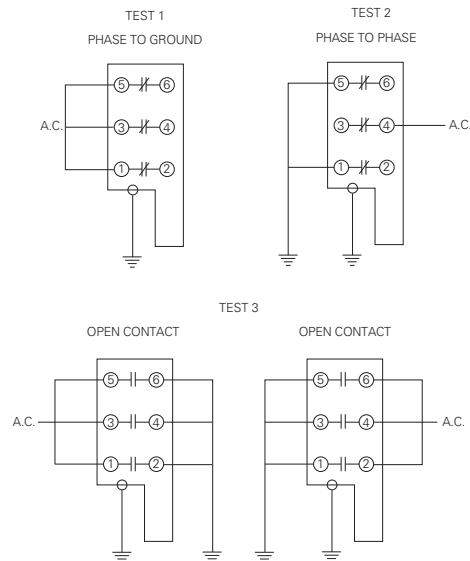

Figure 13. Connection diagrams for high potential testing
2. With high-voltage leads Y and Z connected to the solenoid coil as shown in Figure 13, trip open the recloser manually by pulling down the yellow operating handle (under the sleethood). Then move the handle up to the CLOSED position.
High potential withstand tests provide information on the dielectric condition of the recloser. Testing is performed at 75% of the rated low-frequency withstand voltage. Refer to Table 6 for test voltages and to the connection diagrams shown in Figure 13.